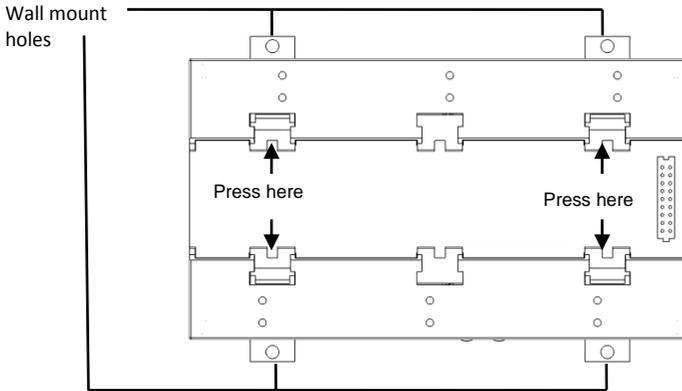

Figure 2: Clips in Open Position
- 3 Position the device on the wall with the open clips, as shown in Figure 2. Mark points through the holes of the clips and drill holes using a 6mm diameter drill bit.